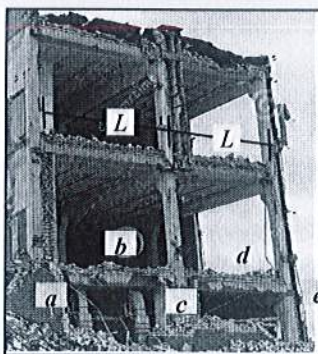

Fig. 3
3. Draw the influence line for (i) the shear force at G and (ii) the reaction of the Roller support of the frame shown in Fig. 3, [14]
3. Fig. 3 shows a damaged RC building at the war-torn Ukraine.